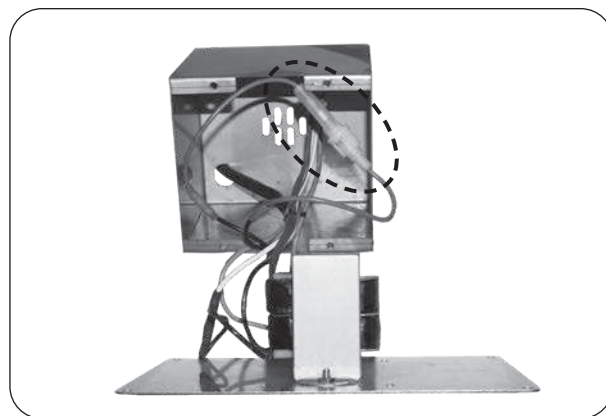

Fig. 40-4 Carefully open box and replace fuse (red wire)
5. Carefully open the box by pulling its cover away. You may need to feed the wire harness into the box to provide enough slack to open on the other end. Then “push in and twist” the fuse holder (red wire), exposing the fuse. See Fig. 40-4.